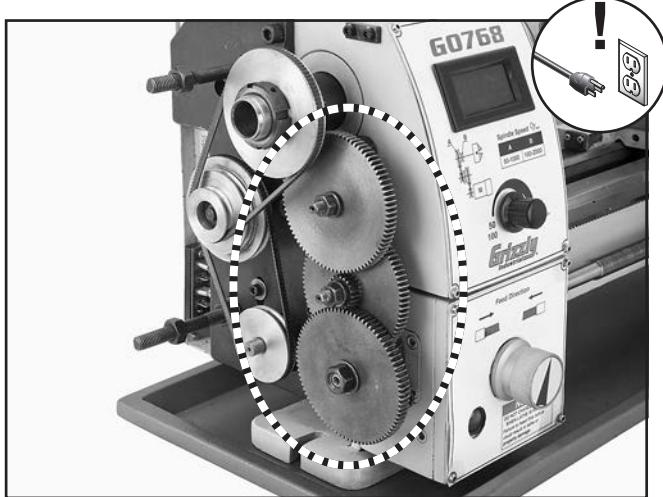

Figure 133. End gears.
The end gears, shown in **Figure 133**, should always have a thin coat of heavy grease to minimize corrosion, noise, and wear. Wipe away excess grease that could be thrown onto the V-belts and reduce optimal power transmission from the motor.
2. Remove end gear cover and all end gears shown in **Figure 133**.